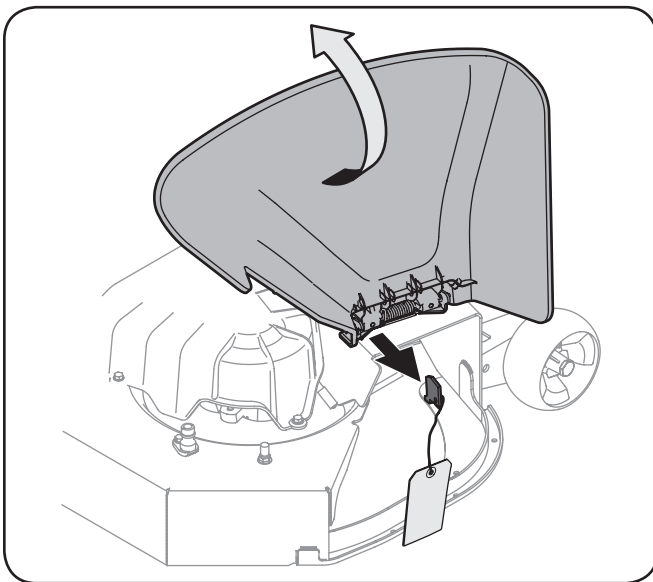

Figure 3-7
5. Holding the chute deflector fully upward, remove the stop bracket by grasping it and rotating it clockwise. Lower the chute deflector Figure 3-7.